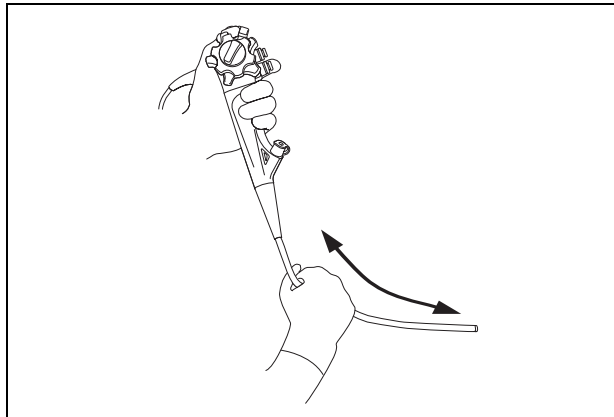

Figure 3.2
5. Holding the control section with one hand, carefully run your other hand back and forth over the entire length of the insertion section (see Figure 3.2). Confirm that no objects or metallic wire protrude from the insertion section. Also, confirm that the insertion tube is not abnormally rigid.